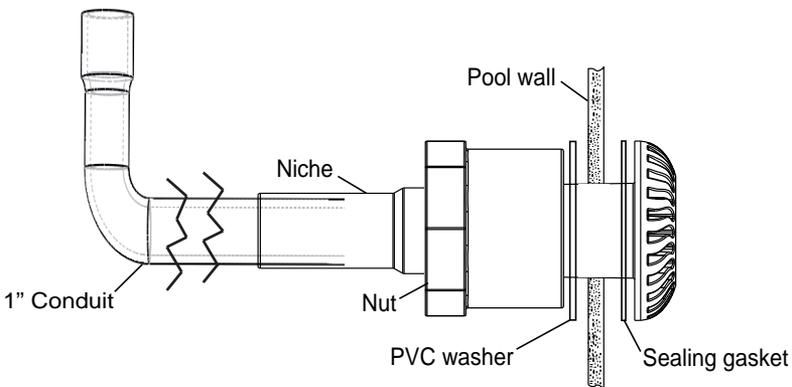

**Figure 1: Gunite Light Installation Diagram**
**BEFORE STARTING:** The following information describes the tasks that must be completed by the electrician *before* the light fixture is installed. See Figure 1 on page 6.
- The Junction Box and the low voltage transformer is located at least 4 (four) inches (10.16 cm) above ground level or eight (8) inches (20.3 cm) above maximum water level, whichever is higher. The Junction Box must be at least 48 inches (1.22 m) from the edge of the pool. See Figure 1 on page 7.
1. **Install Sleeve:** Locate position on vertical pool or spa wall where light is to be installed. The top of the light lens must be a minimum of four (4) inches below normal water level. Refer to Figure 1 on page 7 for the exact depth requirements.
1. **Install Sleeve:** Locate position on vertical pool or spa wall where light is to be installed. The top of the light lens must be a minimum of four (4) inches below normal water level. Refer to Figure 1 on page 6 for the exact depth requirements.
6. Install the conduit. See Figure 1 on page 6.
2. At the 12 VAC transformer or junction box, cut off any extra cord. Leave at least six (6) inches (15.2 cm) of cord in the Junction Box or transformer to facilitate the light installation, niche inspection. Cut off any extra cord. See Figure 1 on page 6.
3. Strip back the outer cord jacket of the wires to expose the two (2) insulated conductors. Strip back the two conductors. Be careful not to damage the copper conductor.
4. Connect the two (2) conductors to the corresponding circuit wires in the Junction Box (black wire to power, white wire to common). Secure the Junction Box cover.